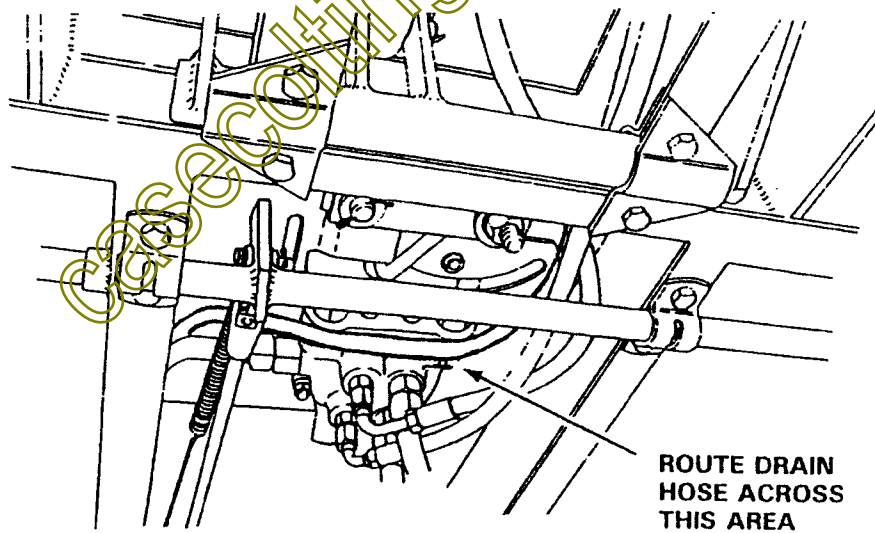

FIGURE 8
- a. Carefully route hose from L.H. side of frame past travel control linkage located between frame rails. (Figure 8)